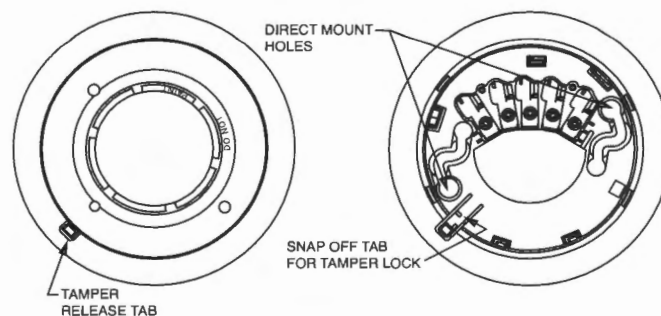

Figure 1: Tamper-Resistant Feature/Wiring
- **Easy Installation:** Installation of the 5193SD/SDT detector is simplified by the use of a mounting base that may be pre-wired to the system, allowing the detector to be easily installed or removed for maintenance or service. (See Figure 1).
- **Versatile Mounting:** Mounting is made simple with the included hardware and the large mounting ports, which accommodate drywall anchors for easy surface mounting. (See Figure 1).
- **Tamper Protection and Tamper Resistance:** The detector contains a built-in tamper switch that can communicate back to the control panel in the event the detector is removed from its base. For an added level of security, the detector also includes a tamper resistant element that prevents removal from the base without the use of tools. (See Figure 1).